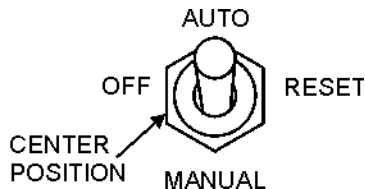

Figure 33. Off/Manual Auto Switch (OFF)
4. If the generator is equipped with an MPEC, place the Off/Manual/Auto Switch (Figure 33) in the "OFF/RESET" position